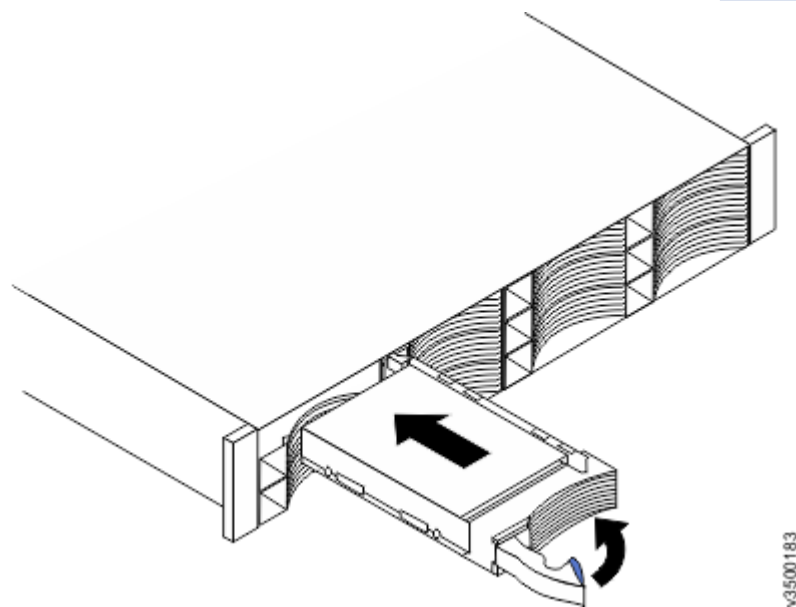

Figure 104. Installing and locking a 3.5-inch drive into its slot
13. Align the drive assembly with the guide rails in the bay (see Figure 104 on page 158).